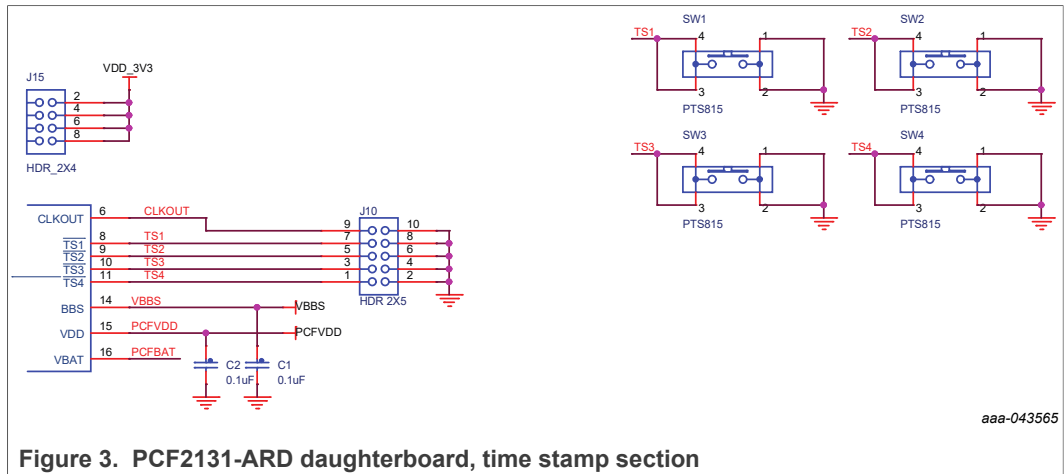

Figure 3. PCF2131-ARD daughterboard, time stamp section
Figure 3 depicts the timestamp section of the PCF2131-ARD schematic diagram. The four dedicated inputs for timestamp (TS) of the DUT are pins 8 to 11. On the TS inputs, toggle switches SW1 to SW4 are connected. Simultaneously, the inputs are linked to J10 connector, so that the user can use either on-board switches or external devices for the timestamp test.